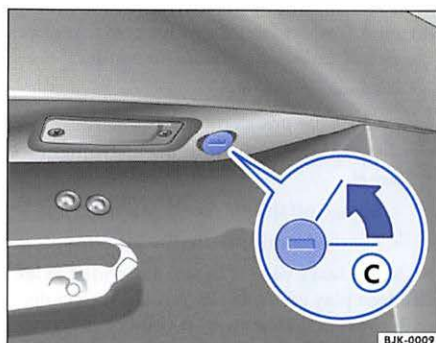

Fig. 20 Rear lid lock
- Insert the master key into the lock in the rear lid and turn the key counter-clockwise ⇒fig. 20 C. The anti-theft alarm system will remain active though and the vehicle alarm will go off. To deactivate the anti-theft alarm system press the button in the remote control.